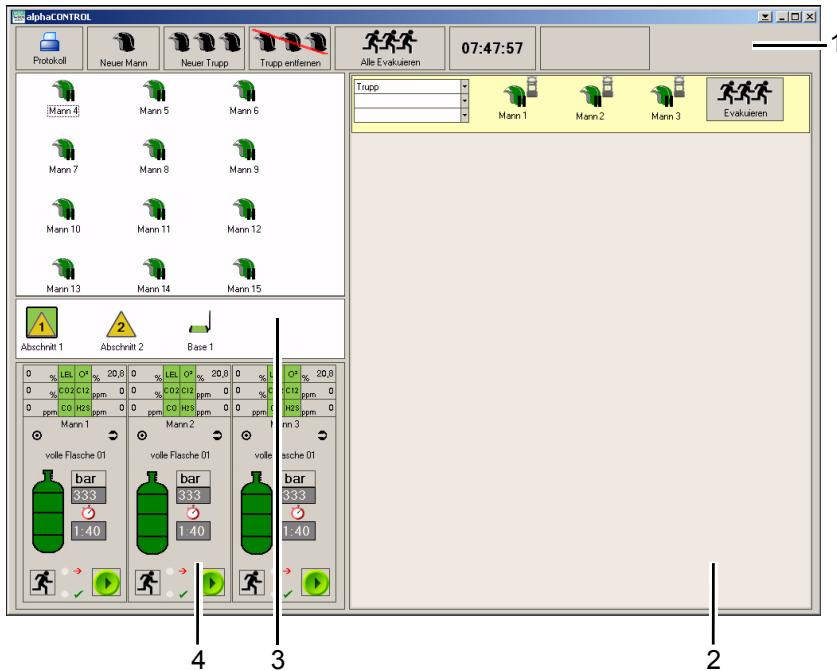

Fig. 5 User interface telemetry monitoring software
- Detailed display of pressure, remaining service time and alarm, and the menu bar [→ Fig. 5].
If a WirelessUSB module is connected to an *alphaSCOUT*, an icon of the WirelessUSB module is shown near to the helmet [→ Fig. 5].